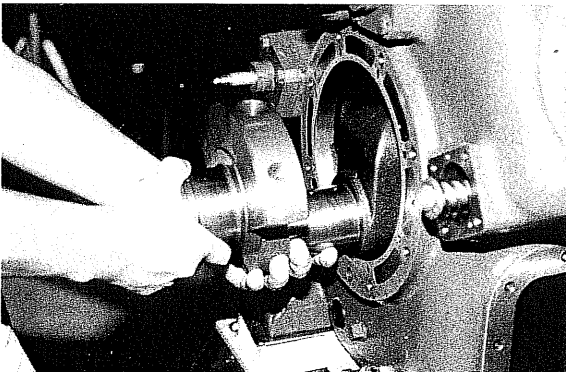
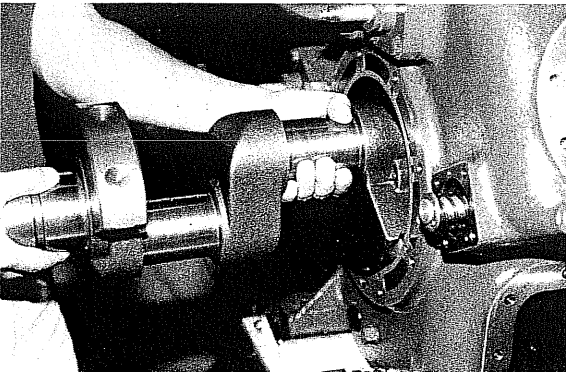

Fig. 66 Drawing out Crankshaft Using Center Arm
Fig. 67 Drawing Out Crankshaft Using Side Seal Balance Portion
- b) The crankshaft can now be drawn out fully as shown in the photo (Fig. 66)(Fig. 67).